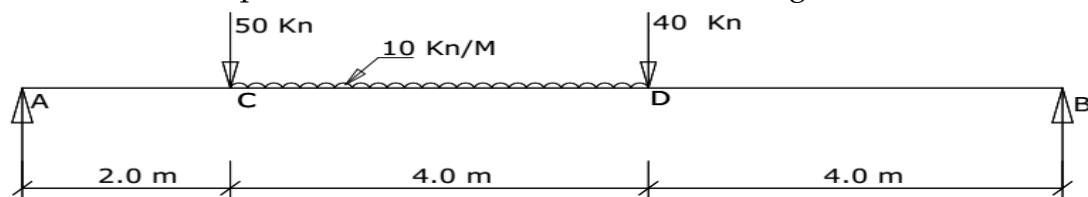

Figure 1(a)
- a) For the elevation of the beam shown on figure 1(a), determine the reaction at supports and draw the **shear force diagram to determine the point of contra flexure**, from this point, determine the maximum bending moment.
- b) For the bar on figure 1(b) below which is applied to several axial loads P_1 , P_2 , P_3 and P_4 . Determine the magnitude of the force P_2 and the overall extension of the bar.
- c) Using the integration method and figure 1(c), derive an expression for centroid of a triangle from y-y axis.
- d) A bar of rectangular section $20\text{mm} \times 30\text{mm}$ carries an axial force of 10Kn . Determine the normal and shear force on plane inclined at 30° to the axis of the bar as shown on figure1 (d) below. Also determine the magnitude and nature of the normal and shear stresses on the inclined plane.